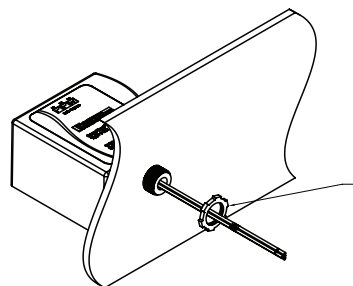

Figure 1 Panel Mount
3. Insert Surge-Trap® SPD wires carefully through the knockout hole and tighten the lock nut to 20 ft-lb (2.3Nm) maximum to secure the Surge-Trap® SPD to the enclosure. (As shown in Figure 1)